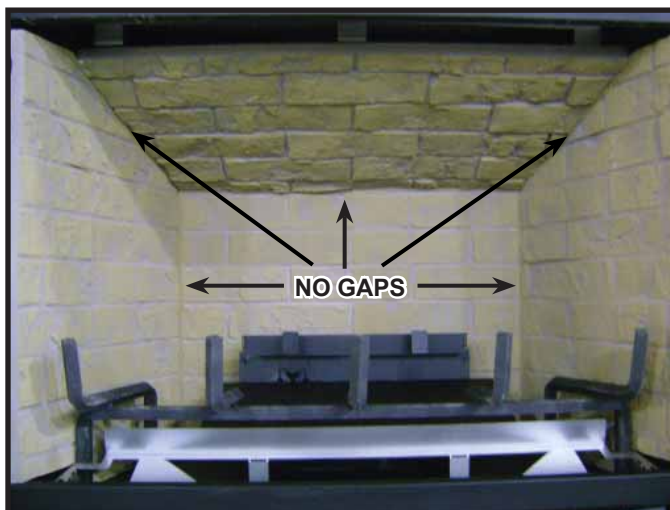

Figure 7
**Log #3 (SRV2164-703):** Mate the slot located on the bottom of Log #3 with the right log placement tab on top of Log #1. After slot and tab have been fitted together, mate the groove located on the bottom of Log #3 with the horizontal grate bar and slide Log # 3 toward the right until it rests against the far right grate tine (see Figure 7).
**Log #3 (SRV2168-703):** Mate the slot located on the bottom of Log #3 with the right log placement tab on top of Log #1. After slot and tab have been fitted together, mate the groove located on the bottom of Log #3 with the horizontal grate bar and far right grate tine. Log #3 will sit down on top of both the grate tine and the horizontal grate bar (see Figure 7.)